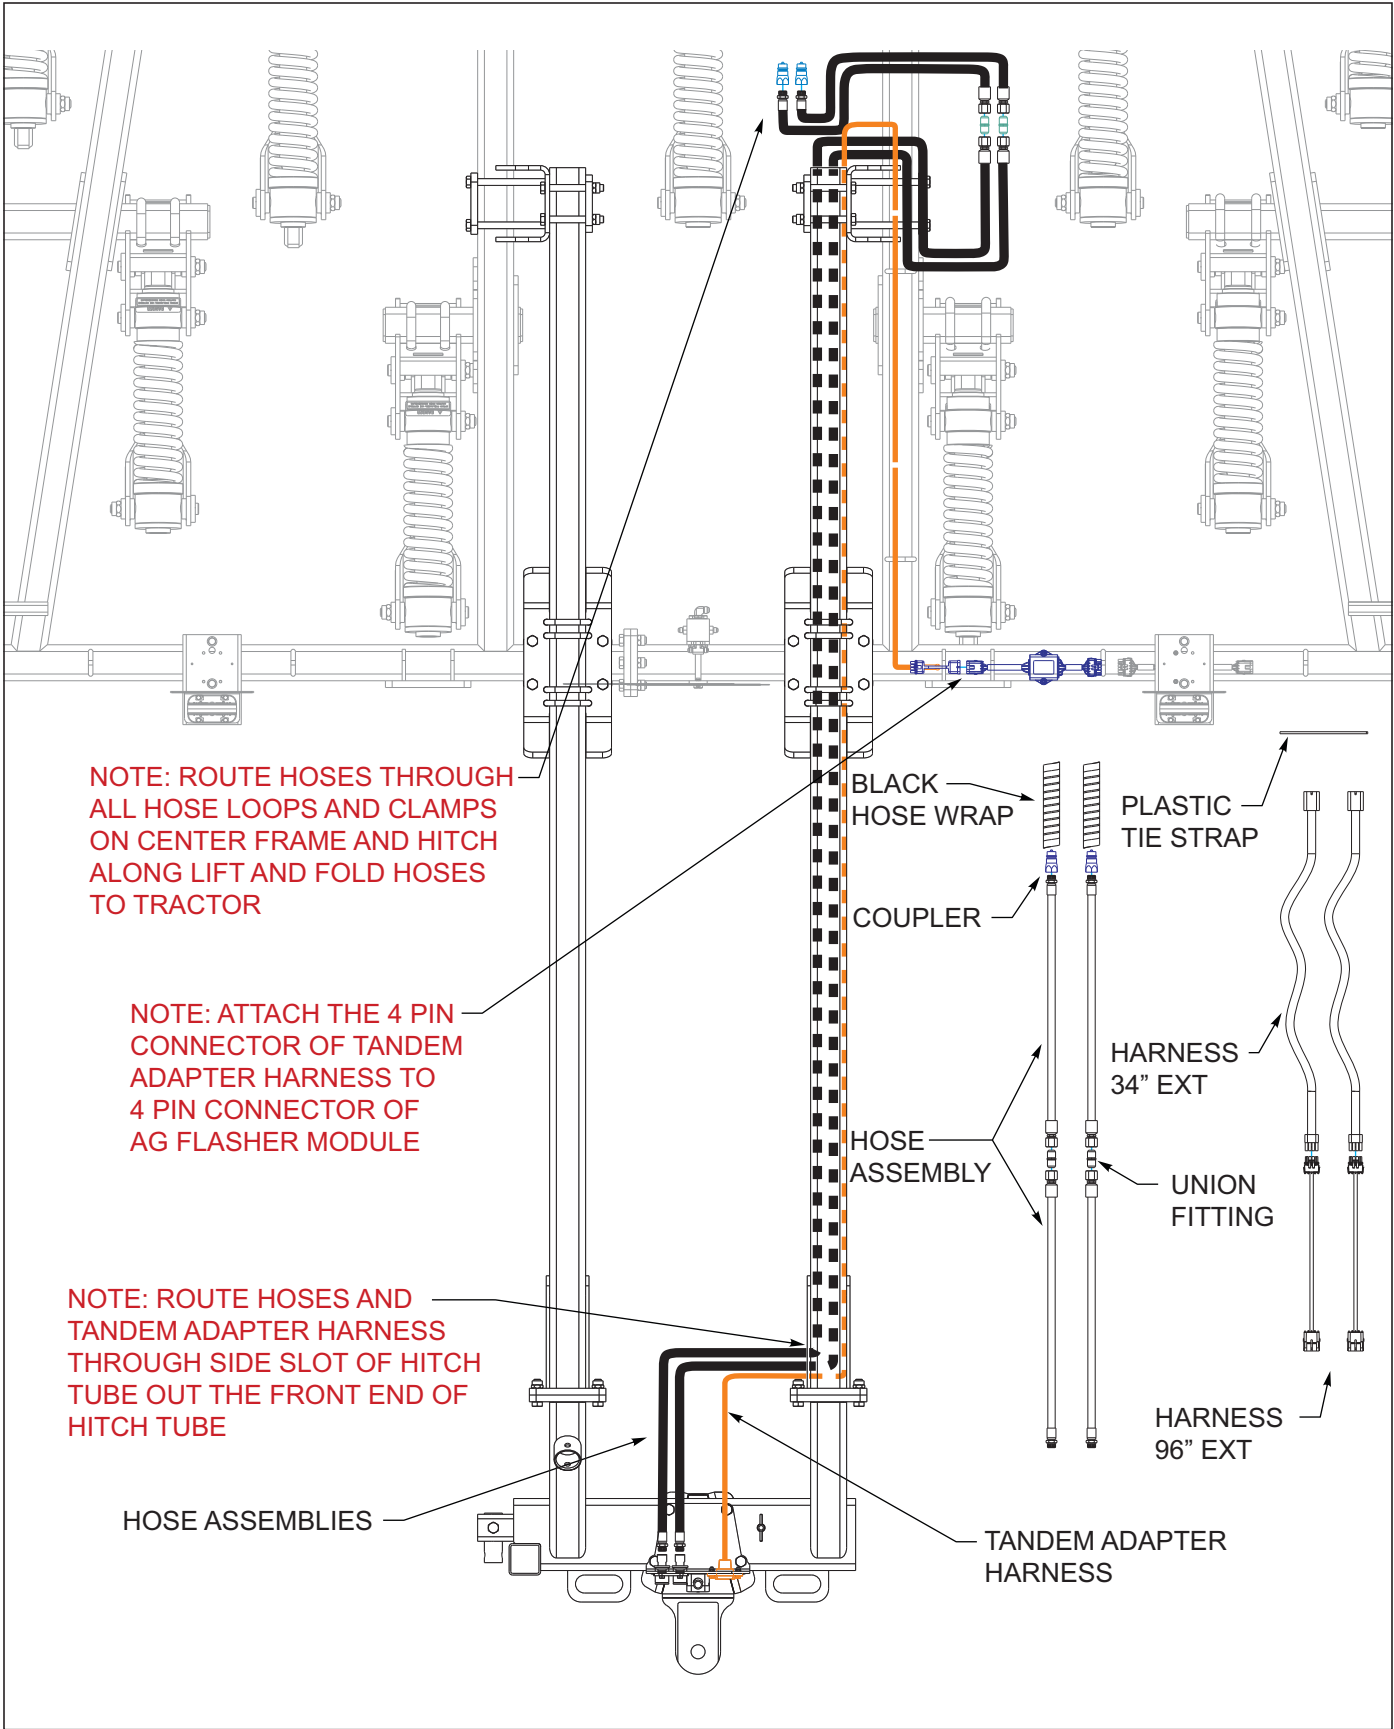

Figure 3-36: Rear Tow Hitch Layout
10. Route hydraulic hose assemblies on right side of hitch, through tube and follow hose loops to front as shown *See Figures 3-36*. Connect one end of the hyd mount assembly and the other end to the union fittings. Connect the couplers to the hose assembly. Attach the other end of the hoses to the union fittings as shown.